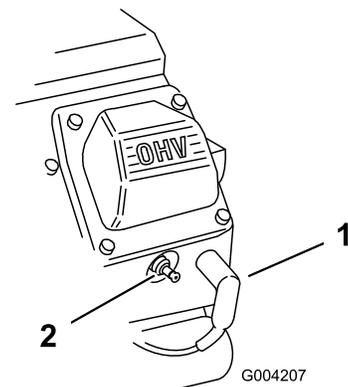

Figure 32
3. Pull the wires off of the spark plugs (Figure 32).
3. Push the wires onto the spark plugs (Figure 32).